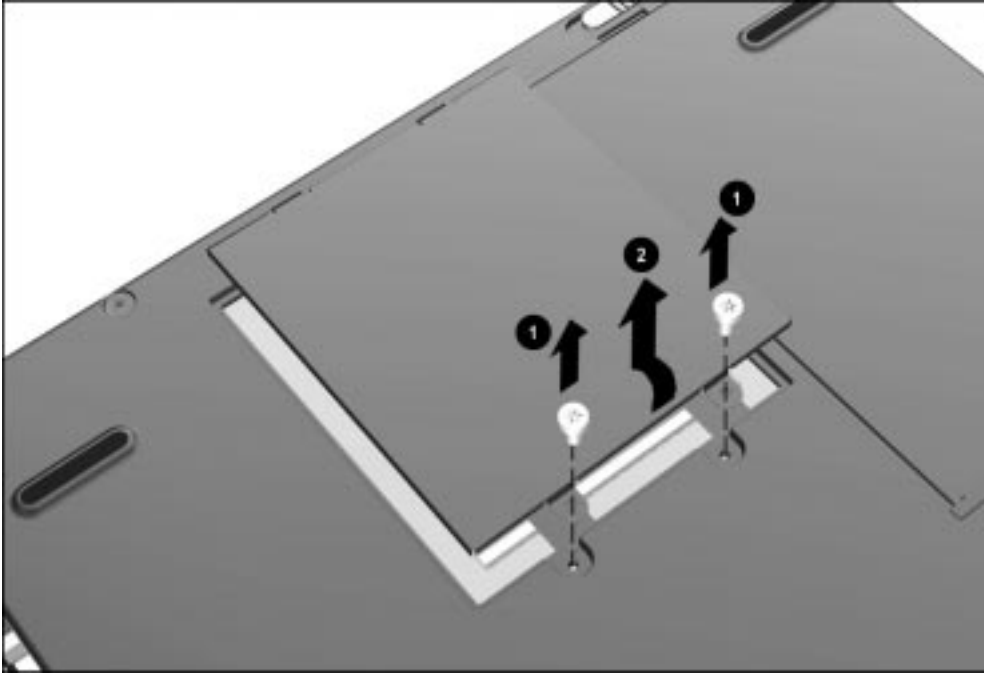

Figure 5-16. Removing the Memory Compartment Cover
3. Use a Torx T-10 screwdriver or the security screwdriver to remove the factory-installed screws that secure the memory compartment cover to the computer ❶ (Figure 5-16). If the security screws have been installed, use the security screwdriver to remove them.
4. Lift the right side of the cover and swing it away from the computer ❷.